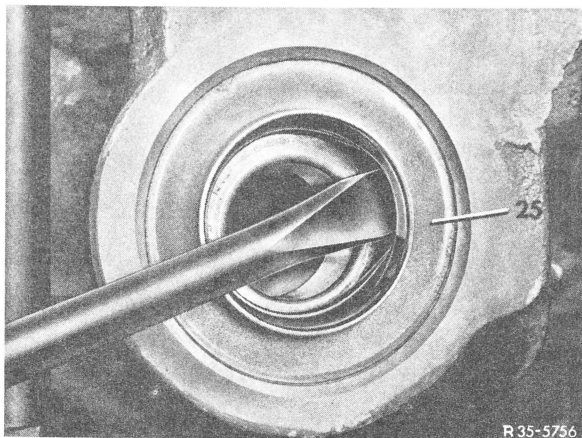

Fig. 4
- 5 Force sealing ring out of rear axle housing with screw driver and remove tapered roller bearing inner race (Fig. 4).